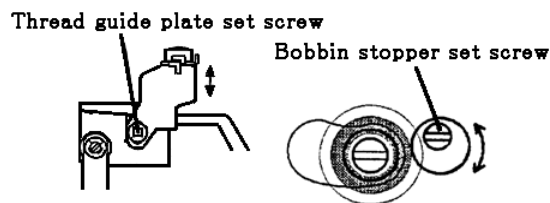

Fig.2
- (1) Loosen the bobbin stopper set screw, turn the bobbin stopper to adjust. (Fig. 2)
- (2) Tighten the bobbin stopper set screw. (Fig. 2)